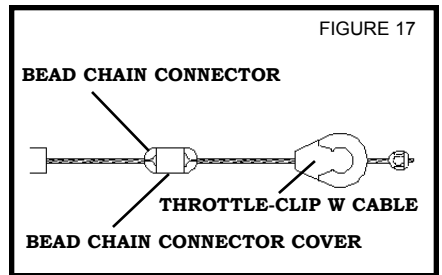

FIGURE 17
2. Slide a **BEAD CHAIN CONNECTOR COVER** over the **CRUISE CABLE**, then attach the **BEAD CHAIN CONNECTOR** to the cable. Attach the **THROTTLE CLIP W CABLE** to the **BEAD CHAIN CONNECTOR** and slide the **CONNECTOR COVER** over the **BEAD CHAIN CONNECTOR**. **Figure 17**